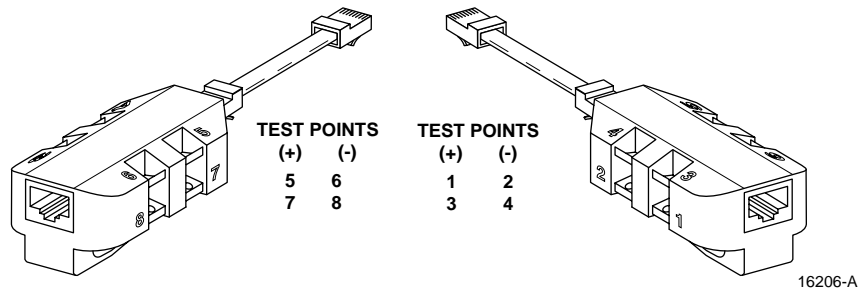

Figure 28. RJ-45 Circuit Access Tool Pin/Wire Designations
4. Using a DC voltmeter, verify that the DC voltage level is between 34 and 48 Vdc between any set of positive and negative (+/-) terminals at the RJ-45 circuit access tool as shown in Figure 28. Due to source current limiting at the DHU or DEU, low voltage can mean excess wire resistance, low source voltage, or excess remote current.
6. Use the DC voltmeter to check for open pin connections by checking for voltage between the +/- pairs on the RJ-45 circuit access tool (see Figure 28).